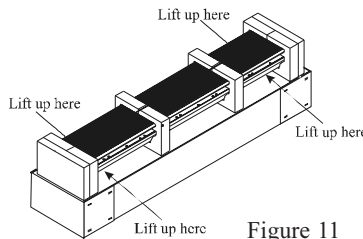

Figure 11
3. Lift up on the rear of the Column Loudspeaker, near the foam packing material at both ends. Place the entire assembly (Column, Loudspeaker Grille and foam packing material) next to the bottom shipping carton on a flat surface. Refer to figure 11.